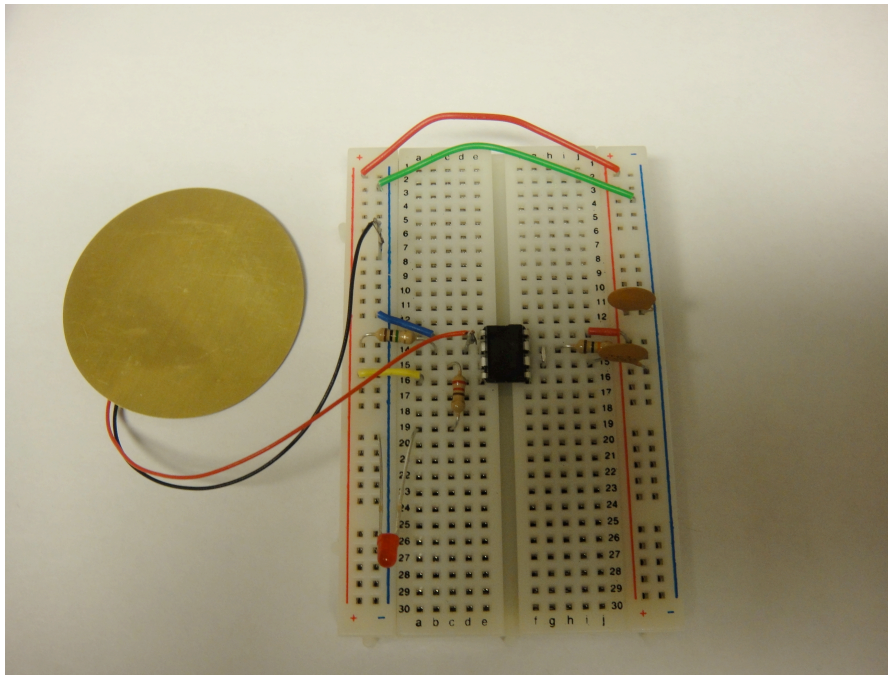

Figure 10.
No general description can cover the amazing range of electronic components available. The connections will almost always be a lead (like resistors and capacitors) a pin, or wires. In many cases, the device can be mounted with a socket with pins or leads. The only odd part for this project is the piezoelectric transducer, which has two long wires attached. These can be soldered to lead clippings for insertion directly into a breadboard, (see figure 10) and will ultimately be connected with an audio connector.
I assembled the circuit on the breadboard as shown in figure 10. The process is really simple:
- Make sure the ground and V+ busses are connected to the power supply. (Many breadboards have two busses marked +, but these are not connected together. Note the red and green wires across the top of figure 10.)